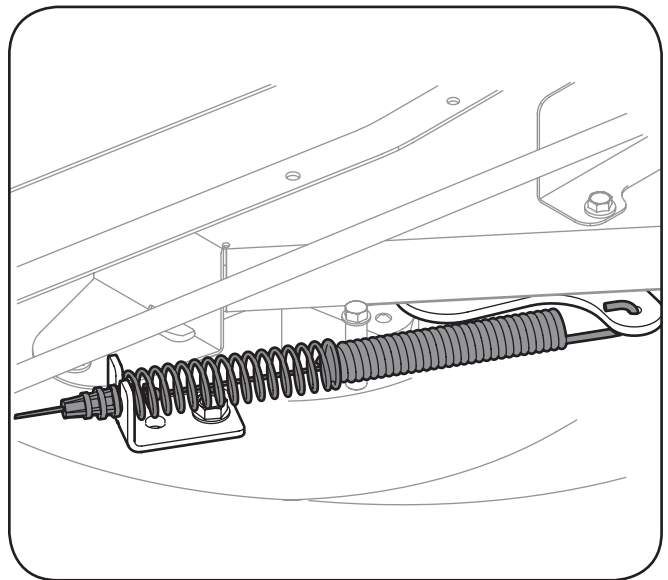

Figure 7-4
7. Carefully remove the PTO cable from the rear of the cutting deck by compressing the PTO return spring and moving the cable up and out of the mounting bracket on the cutting deck. See Figure 7-4.